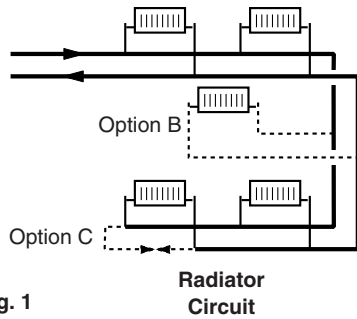
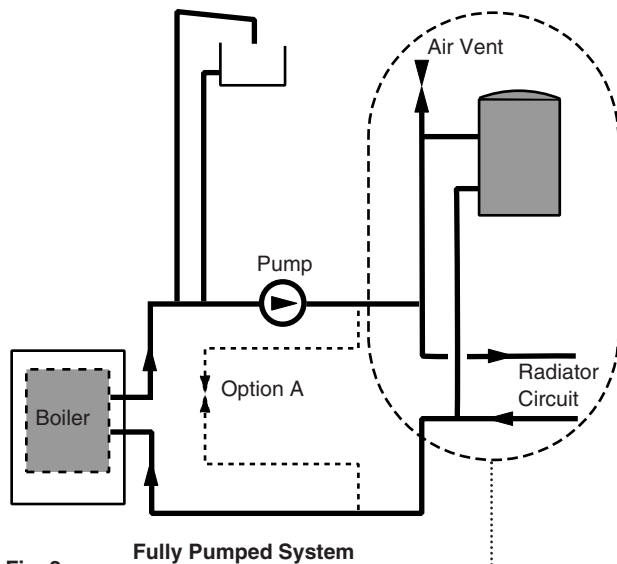

Fig. 1
Fig. 2
**NOTE:** For 'S' Plan systems the bypass flow circuit must be situated between pump and zone valves as option A shows (Fig. 2).
- For all boilers a minimum of 6 metres of 22mm copper pipe, (measured between the boiler flow and return connections). It should be fitted with a lock shield valve opened at least 1 full turn or a proprietary bypass valve set to give a minimum flow rate of 8 litres/min (1.8 gal/min) (Option C, Fig. 1 & Option A, Fig.2).
- A radiator fitted with lock shield valves. The radiator output should be a minimum of 800 watts (2,700 Btu/h). Typically a convector type radiator with an area of 3750 cm2 (4 sq ft) is adequate (Option B, Fig. 1).
- Any circuit that provides the same operating conditions as option A or option B (Figs. 1 & 2).